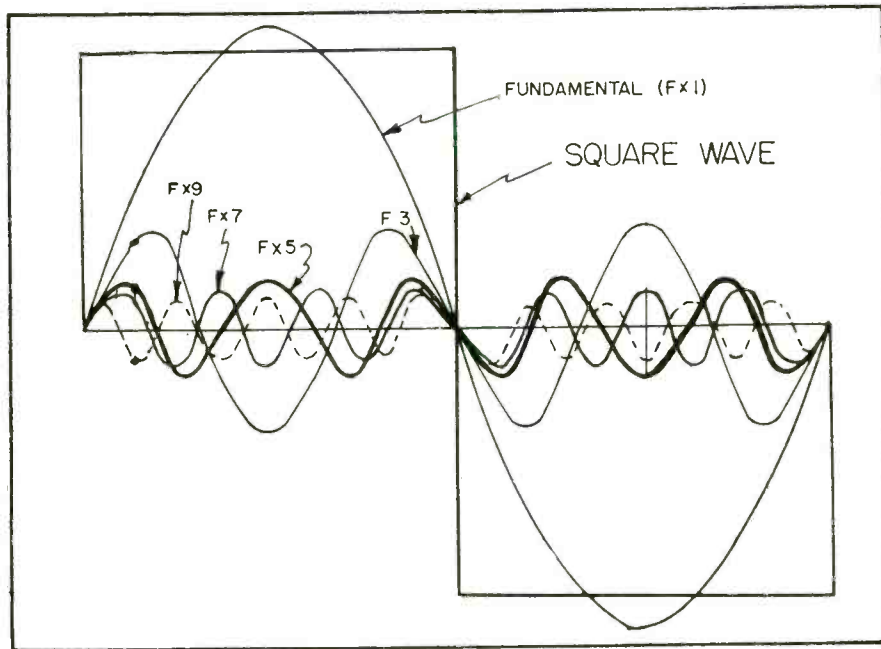

Fig. 1—Square wave makeup. Note the decreasing amplitude of higher harmonics, also phase relations of all components at start of cycle.
**I**N the previous installment (March 1955) it was shown that a square wave may be considered as a combination of a fundamental sine wave with an infinite number of its odd harmonics. In addition, the amplitude of each of these harmonics becomes smaller as the order of the harmonic increases. The fifth harmonic, for example, has an amplitude one fifth that of the fundamental. The seventeenth harmonic would have an amplitude one seventeenth that of the fundamental. Finally, each harmonic must bear an "in phase" relationship with the fundamental. By this is meant that at the instant the fundamental is beginning its positive half cycle, each harmonic is also beginning a positive half cycle. Fig. 1 summarizes the previous statements in graphical form. Obviously, we cannot show all the harmonics in such a graph, but the odd harmonics up to the ninth are shown. Thus, a perfect square wave is obtained when the three conditions outlined above are satisfied.